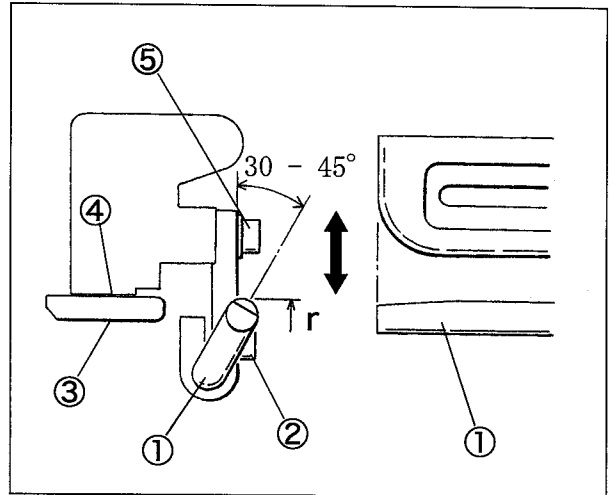

Fig. 29
Align the left end of the fabric guide bar① with that of the folder. Tilt the folder① at 30 - 45° (Fig. 29). Tighten the screw② securely.